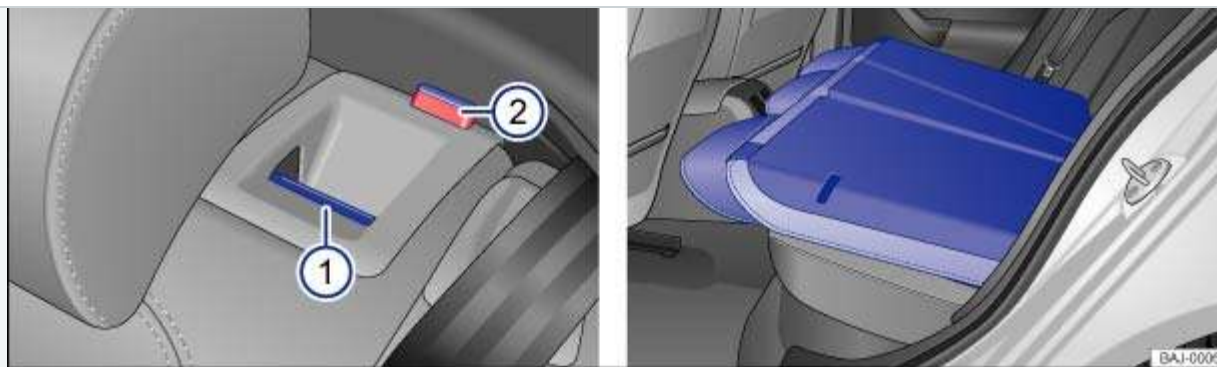

Fig. 99 : Rear seat bench: Release button ① and red mark on the indicator ②. : Seat backrest folded forward.
- Pull the release button ⇒ Fig. 99① forward while folding the rear seat backrest forward.
- The rear seat backrest is unlocked if the red mark ⇒ Fig. 99② can be seen on the indicator.
- The red mark on the indicator ⇒ Fig. 99② should no longer be visible.
- If the red mark on the indicator ⇒ Fig. 99 is visible, this indicates that the backrest is not latched into place. Always check to make sure that the red mark is not visible whenever the rear seat backrest is in the upright position.